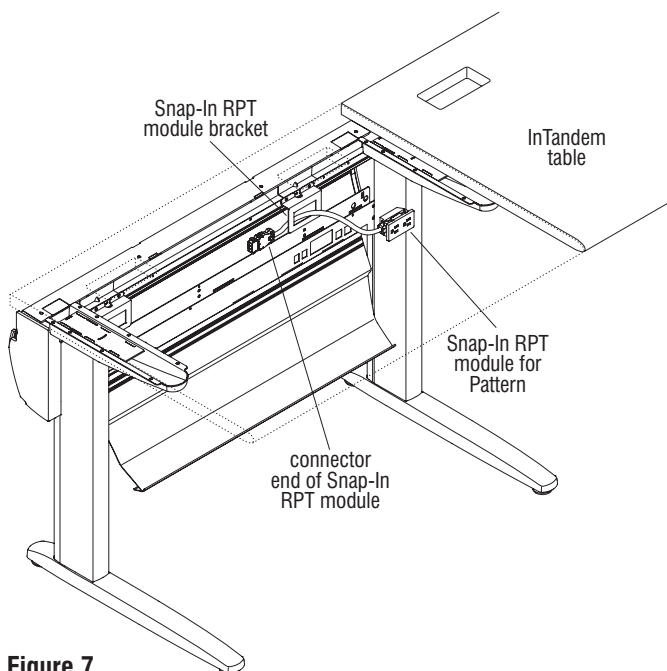

Figure 7
4. Feed the connector end of the Snap-In RPT module through the rectangular opening in the bracket as illustrated and snap the module into place (Figure 7).